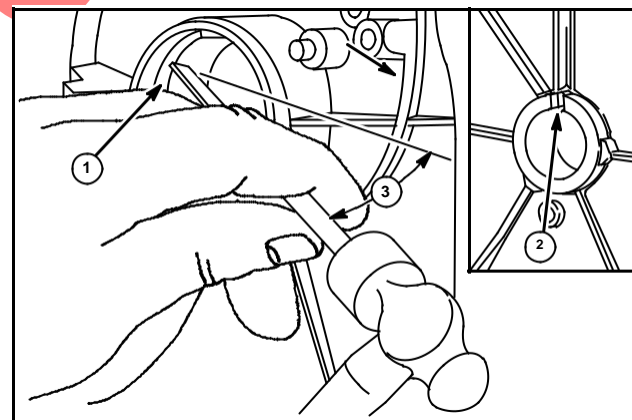

Fig. 9
1. Hold new bushing against cylinder or crankcase cover with notch (1) next to reamed out bearing and in line with notch in cylinder or cover (2).
3. With a hammer and chisel or screwdriver at a 45 degree angle (3), make a notch in reamed out bearing opposite split in bearing, Fig. 9.